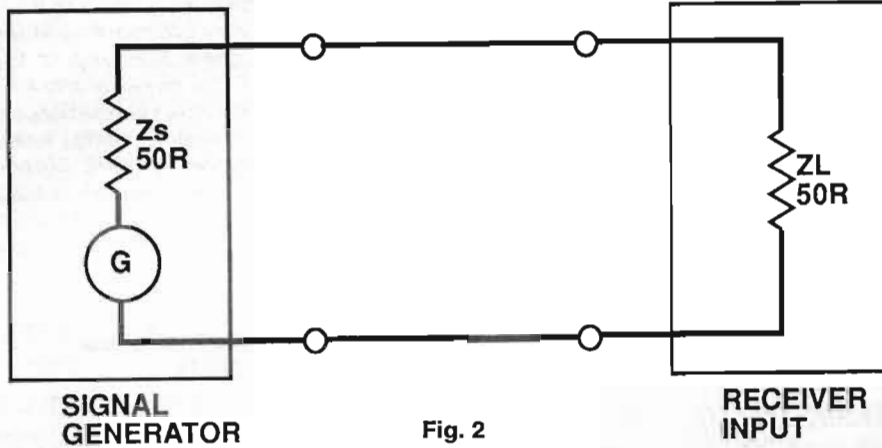
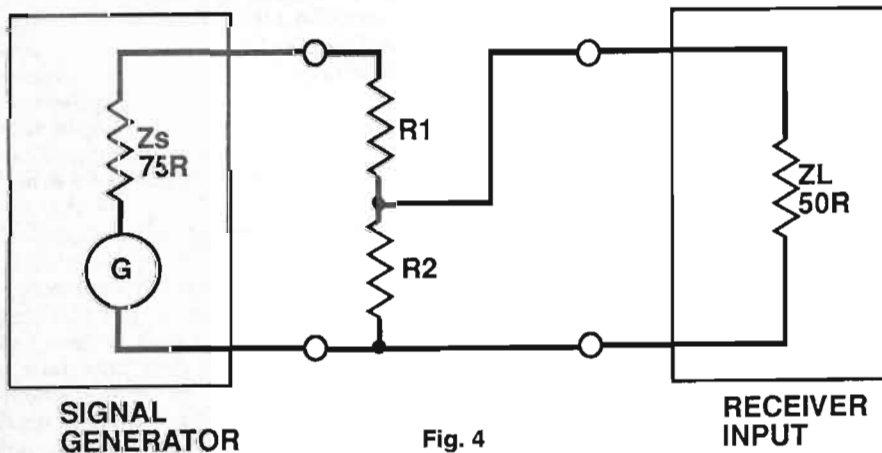

Fig. 2
Fig. 4
Consider Fig. 2, which shows a 50 ohm signal generator feeding into a 50 ohm receiver input circuit. The signal generator 'sees' a load of 50 ohms, and the receiver, looking back into the signal generator, 'sees' a source impedance of 50 ohms; both should be happy! If the signal generator is set to deliver an open-circuit output (EMF) of 1 microvolt, that signal will be divided equally across the source impedance  $Z_s$  and the load impedance of the receiver front end  $Z_L$ , giving half a microvolt potential difference (PD) at the receiver input terminals. It's a basic law of electrical networks that PD equals half of EMF in a matched circuit.
That works nicely where we need to increase the effective output impedance of a signal generator, but what happens if we have the opposite situation, a 75 ohm signal generator and a 50 ohm receiver? An outline of the solution is shown in Fig. 4, but it's not as simple as that first appears. Don't be fooled into thinking that you could just make  $R_1$  25 ohms and  $R_2$  50 ohms and all would be well; not so! The signal generator will 'see' a load of  $R_1$  in series with the parallel combination of  $R_2$  and  $R_L$ , not just  $R_2$ . Similarly, the receiver will 'see' a source of impedance equal not just to  $R_2$ , but to  $R_2$  in parallel with the series combination of  $R_s$  and  $R_1$ .
You can of course consider  $R_1$  and  $R_2$  in Fig. 4 to be part of the signal generator, in which case its Thevenin equivalent circuit is identical to that in Fig. 2!